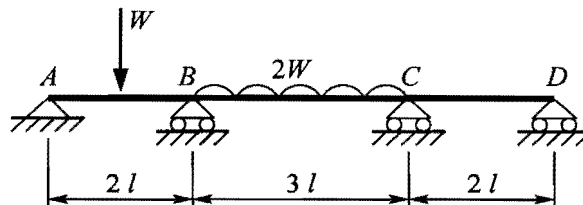

Figure 10
- * 12. Figure 10 shows a uniform beam with unequal spans, which is simply supported at points A , B , C and D ; it is initially unstressed. A mid-span load, W , is then applied to span AB together with a load of total magnitude, $2W$, uniformly distributed over span, BC ; span CD is unloaded.